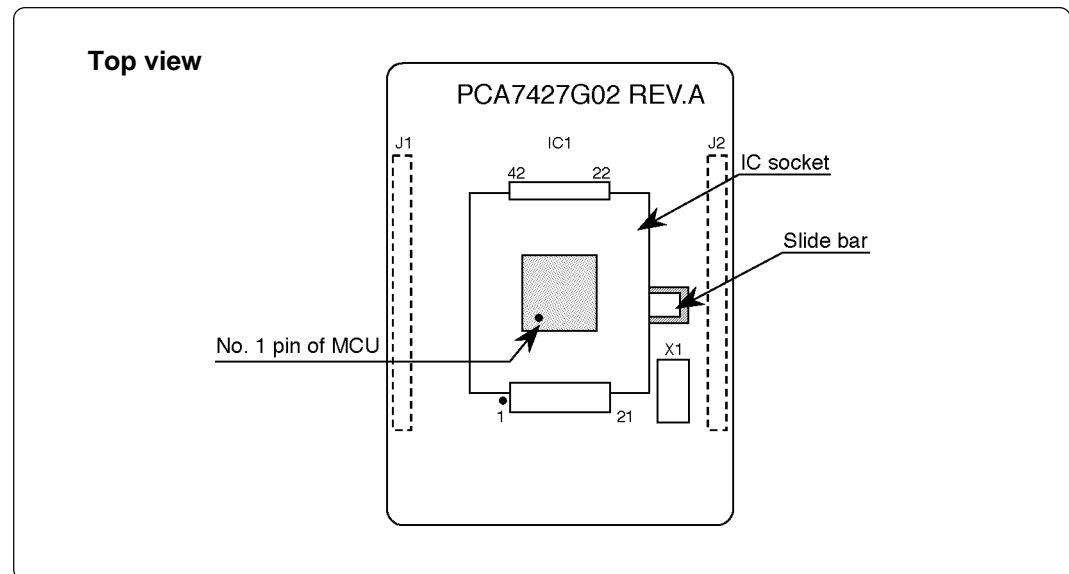

Figure 4.3 Mounting an MCU
- (1) As shown in Figure 4.3, set the slide bar in the center of the IC socket to the shaded area on the board.
- (2) As shown in Figure 4.3, mount the MCU into the IC socket with the No. 1 pin of the MCU matched to the No. 1 pin of the IC socket on the PCA7427G02.